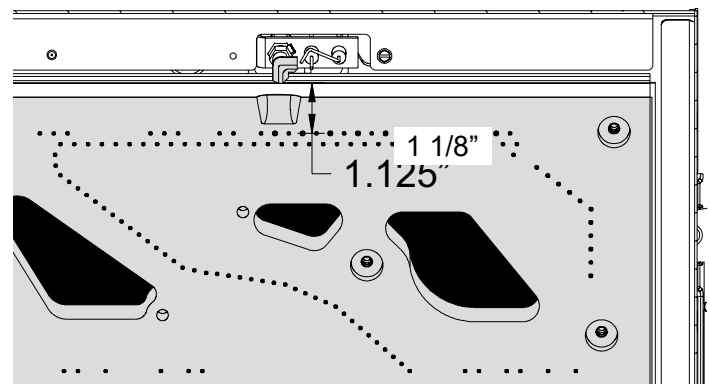

Figure 7.6. Burner and pilot location.
9. **Replace the Burner.** Tilt the burner assembly downward to engage the venturi tube with air shutter assembly. The front burner supports must engage with the studs at the front of the firebox. **BE CERTAIN THE BURNER IS LEVEL AND SECURELY ENGAGED WITH THE FIRBOX FLOOR.** When properly positioned, the pilot carry-over porting will be 1 1/8" (28mm) from the pilot head. Fig. 7.6.